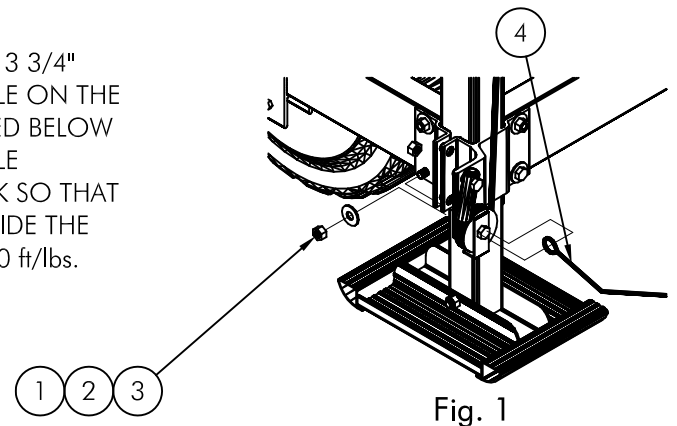

Fig. 1
See Fig. 1
- REMOVE EXISTING BOTTOM 1/2-13 x 3 1/2" BOLT FROM THE SIDE FRAME AND REPLACE WITH 1/2-13 x 3 3/4" BOLT INCLUDED WITH LIFT REMOVAL/INSTALL KIT. PLACE THE SMALL LOOP AT THE END OF THE "Y" CABLE ON THE BOLT BETWEEN THE OUTSIDE OF THE SIDE FRAME AND THE FLATWASHER. BE SURE THE CABLE IS ROUTED BELOW THE FRAME CLAMP BEFORE TIGHTENING THE NYLOCK NUT. THE FRAME CLAMP WITH THE LIFTING CABLE ATTACHED ON THE INSIDE WILL NEED TO HAVE THE NYLOCK NUT REMOVED AND SLIDE THE BOLT BACK SO THAT THE 1/2-13 x 3 1/2" BOLT CAN BE REMOVED & REPLACED WITH THE 1/2-13 x 3 3/4" BOLT PROVIDED. SLIDE THE BOLT BACK THROUGH THE LIFTING CABLE END AN REPLACE THE NYLOCK NUT. TORQUE BOLTS TO 100 ft/lbs. SEE FIG. 1.